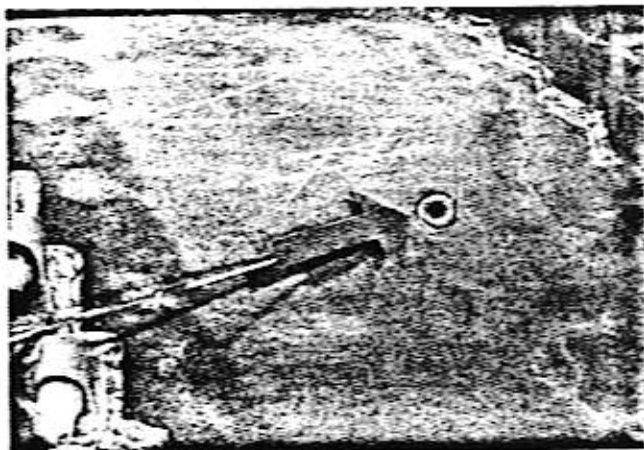

Figure 10-5
the level are located under the deck covers on the right side of the drum. Maintain level at eight (8) inches below fill plug (fill plug at 12 o'clock). See figure 10-5.